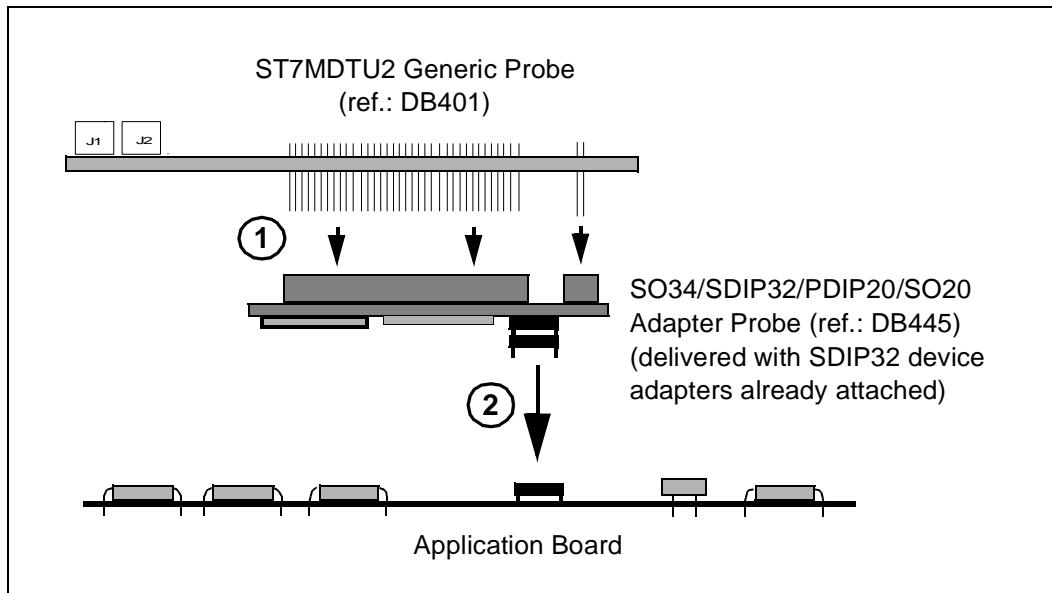

Figure 15: SDIP32 MCU package connections
D) If you are using the SDIP32 MCU package, follow these steps (refer to *Figure 15*):